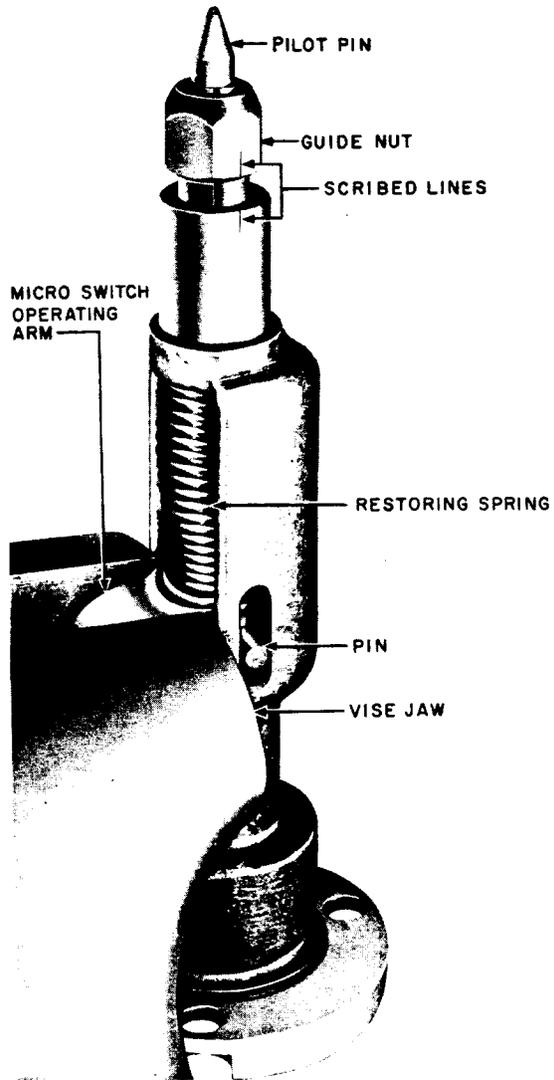

Fig. 6 - Hole-Enlarging Control Unit Cylinder Clamped in Vise
**5.04** Using the 240 scribe, scribe lines on the pilot pin guide nut and the adjacent surface of the cylinder to obtain the same relative position of these parts when reassembling. Clamp the Micro Switch operating arm close to the shaft in the jaws of a vise, as shown in Fig. 6, to avoid bending the shaft when removing the pin from the shaft. Remove the pin using the 1/8-inch drive pin punch and 4-ounce riveting hammer. Remove the cylinder from the vise.